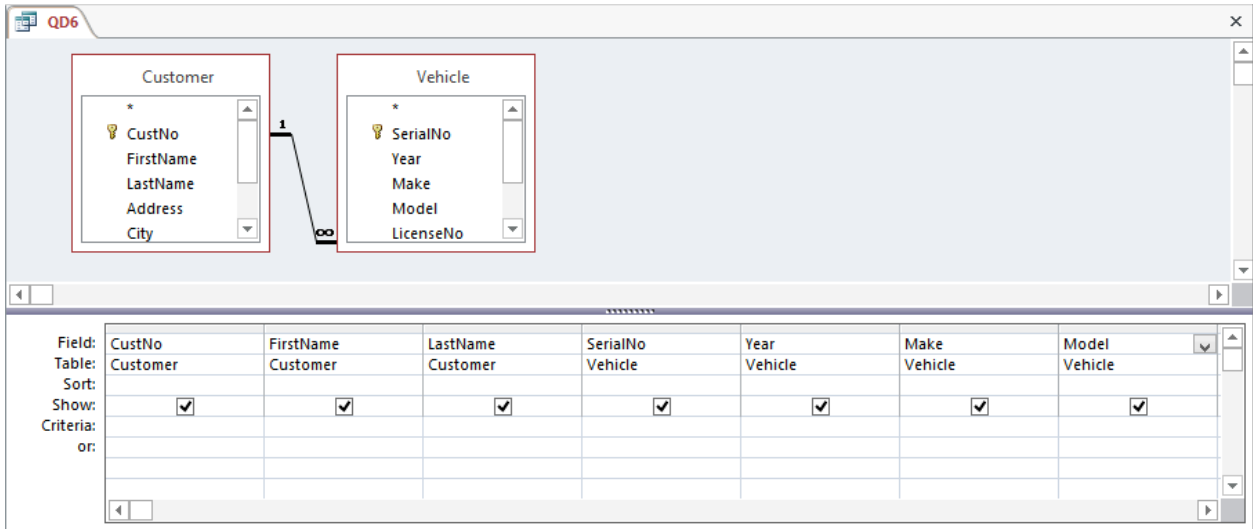

Figure 28: Completed “QD6”
9. Place Fields: In the Query Design window, drag the first three fields from the *Customer* table and the first four fields from the *Vehicle* table to the Query Design table (Figure 28). Note that you have to scroll the table to the right to access additional fields to fill.
⁷ If your Relationships window does not show thick lines (referential integrity is not supported), the lines in Figure 28 will appear as thin lines. You must enforce referential integrity in the Relationships window to make thick lines in the Join window (Figure 28).
6. Open the Query Design Window: Next, open “QD7” in design view. It should appear the same as “QD6” (refer back to Figure 28).